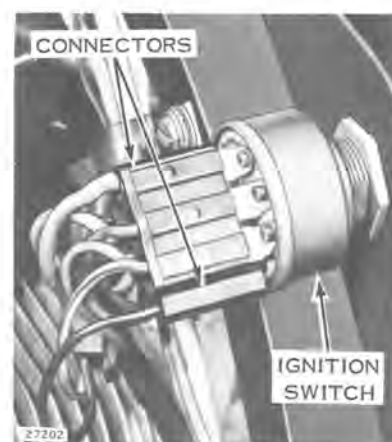
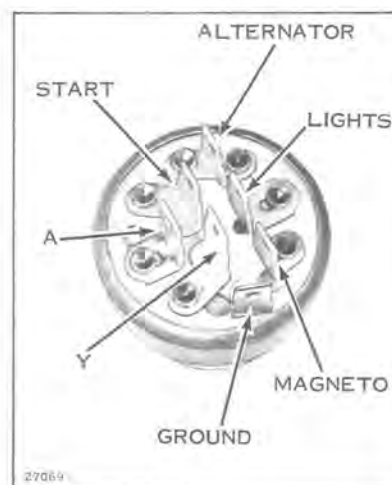

Figure 7-12
Figure 7-13
- C. If less than 500k ohm reading, remove terminal connectors from ignition switch (see Figure 7-12) and remove ignition switch from dash panel. Turn ignition key to "RUN" position and take a resistance reading across the magneto and ground terminal of the ignition switch. See Figure 7-13.